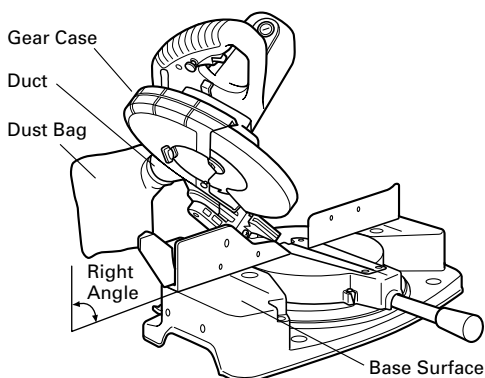

Fig. 27
- (1) When the dust bag has become full of sawdust, dust will be blown out of the dust bag when the saw blade rotates. Check the dust bag periodically and empty it before it becomes full.
- (2) During bevel and compound cutting, attach the dust bag at a right angle to the base surface as shown in Fig. 27.